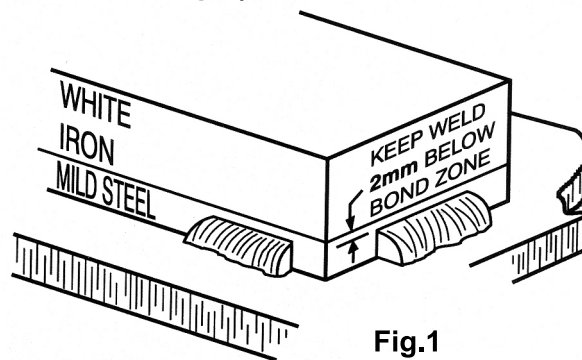

Fig.1
3. Stitch weld, laying 2" (51mm) max length on each run, alternating ends or similar to minimize heat input. **Do not** deposit weld within **2mm** from the joint line between white iron and steel backing plate (**Fig.1**).